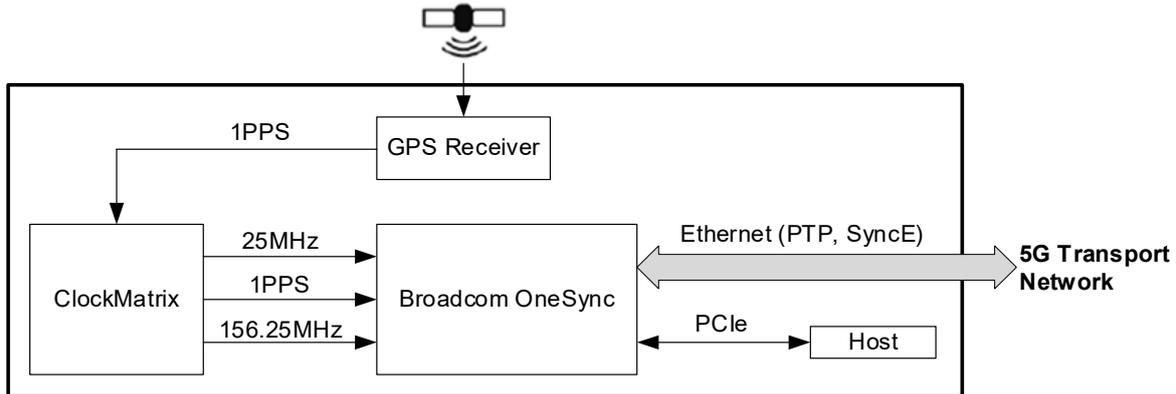

Figure 4. Clocking for Broadcom Ethernet Switch ASICs
- Figure 4. Clocking for Broadcom Ethernet Switch ASICs6
Figure 4 depicts a 5G transport solution architecture based on a Broadcom switch SoC.